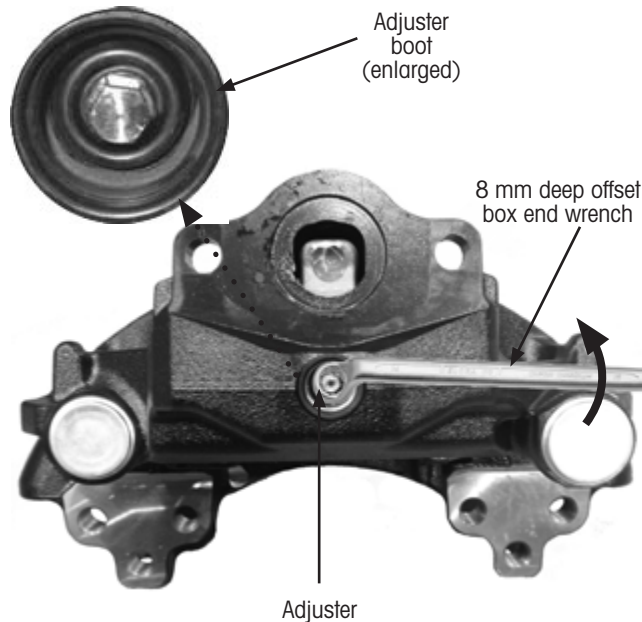

Figure 19: Rotating adjuster with an 8 mm deep offset box end wrench
6. **Check** the adjuster boot for wear and damage (Figure 19). Replace if damaged or worn.